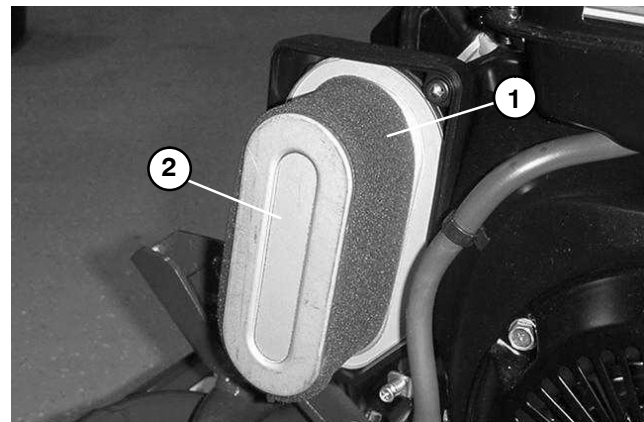

Figure 7
3. If the foam element is dirty, remove it from the paper element (Fig. 7). Clean foam element thoroughly.